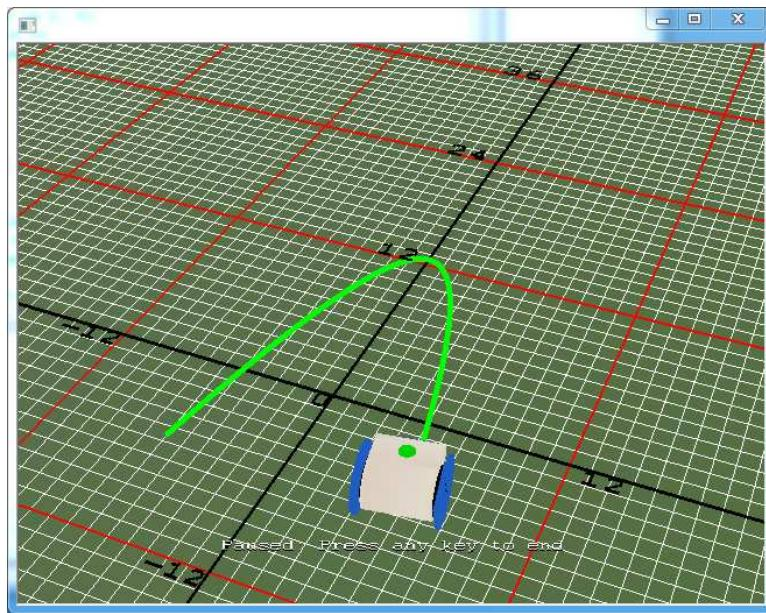

Figure B.15: The RoboSim scene with the robot trajectory for program `drivexytofunc2.ch`
2. Write a program `drivexytoexpr2.ch`, using the member function **`drivexyToExpr()`**, based on Program B.5, that drives a virtual Linkbot-I along the trajectory of a parabola from (-6, -5.5) to (6, -5.5), as shown in Figure B.15.